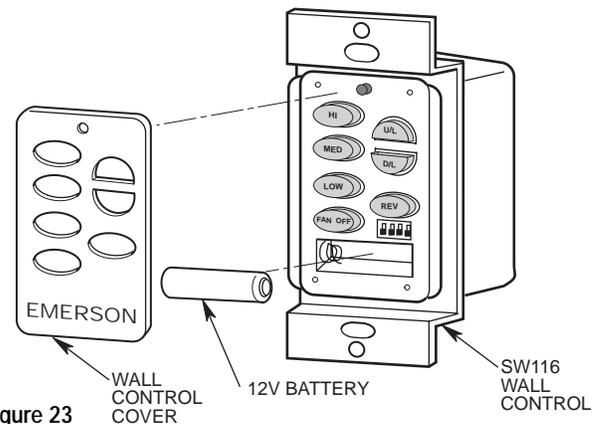

Figure 23
1. Install the 12V battery (supplied) into the wall control (Figure 23).
2. The SW116 wall control is supplied with a white or almond color cover. Choose the style that best suits your needs and snap the cover onto the wall control (Figure 23).